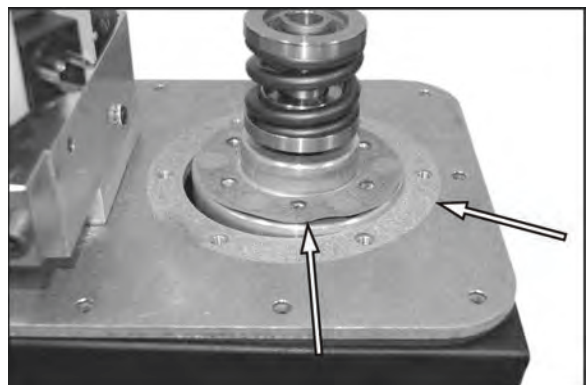

Figure 73.
5. See Figure 73. Remove the gasket and clean the gasket surfaces.